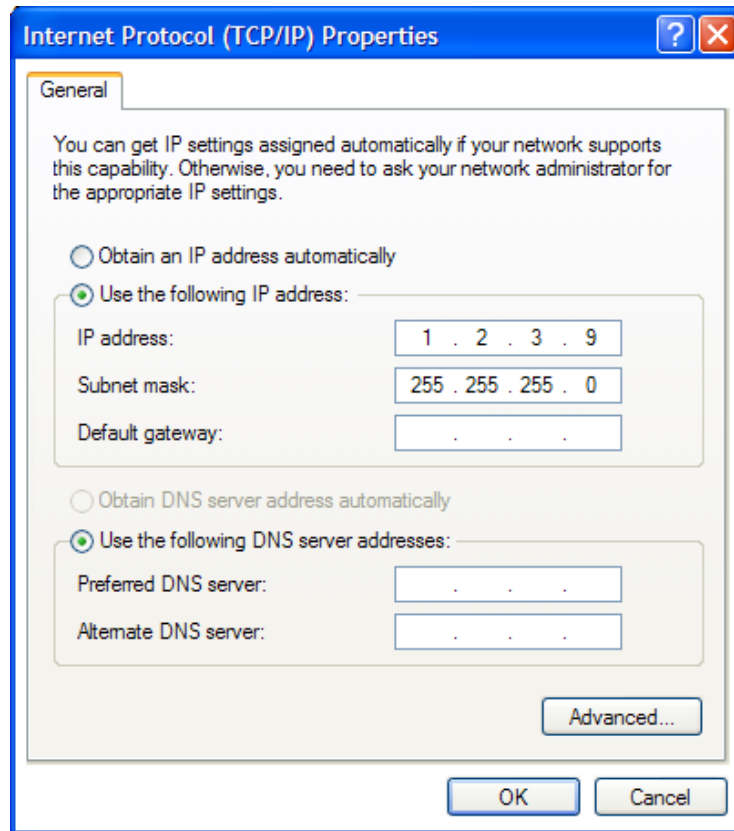

Figure 15 – Setting the IP Address and Subnet Mask
5. Select the button for “Use the following IP address:” and set the IP address and Subnet mask as shown in Figure 15. Click **OK** and then **Close**.